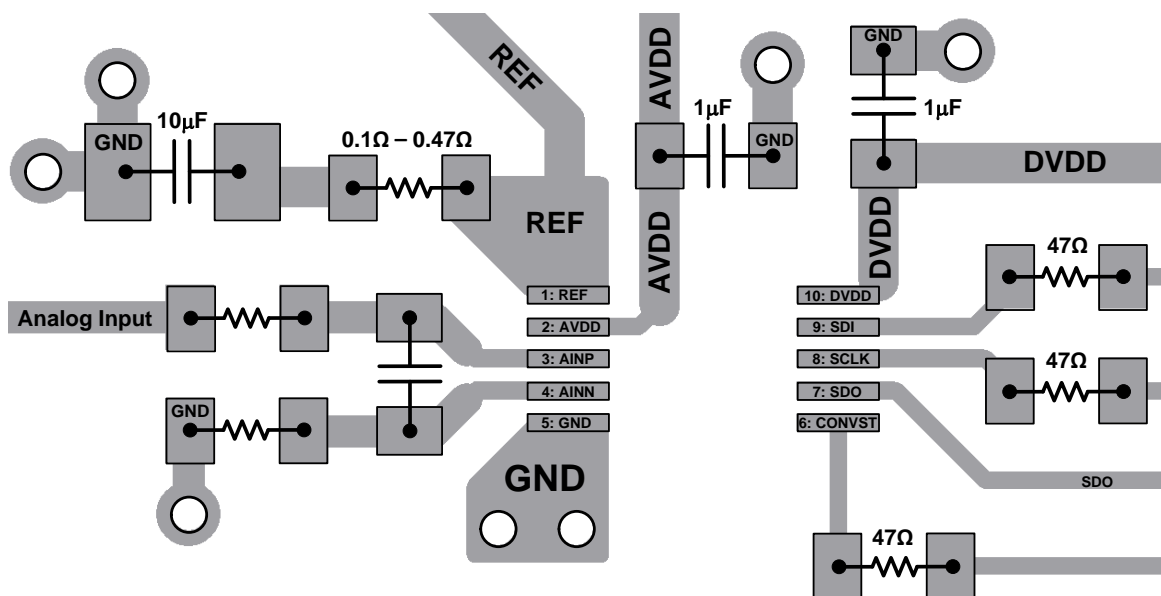

Figure 64. Board Layout Example
Figure 64 shows one of the board layouts as an example when using ADS8339 in a circuit.
- A layout that interconnects the converter and accompanying capacitors with the low inductance path is critical for achieving optimal performance. Using 15-mil vias to interconnect components to a solid analog ground plane at the subsequent inner layer minimizes stray inductance. Avoid placing vias between the supply pin and the decoupling capacitor. Any inductance between the supply capacitor and the supply pin of the converter must be kept to less than 5 nH by placing the capacitor within 0.2 inches from the supply or input pins of the ADS8339 and by using 20-mil traces, as shown in Figure 64.